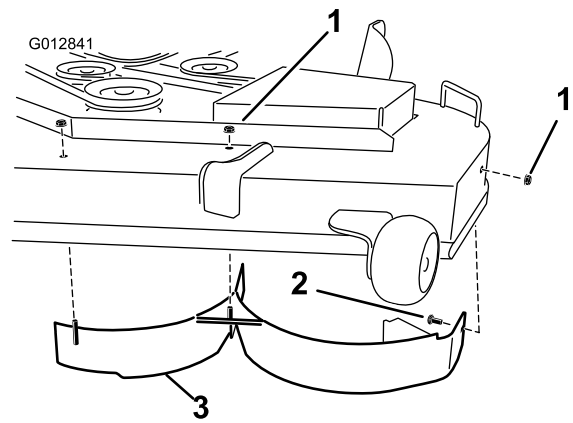

Figure 32
6. Remove the two lock nuts (5/16 inch) secured to the welded posts of the left baffle on the top of the mower deck at the center and left of center positions (Figure 32). Remove the carriage bolt and lock nut on the side wall of the mower deck securing the left baffle to the deck.
7. Remove the left baffle from the mower deck as shown in Figure 32.
8. Locate the two bolts and lock nuts in loose parts. Install these fasteners into the holes shown in Figure 32 on the mower deck to prevent flying debris. Install the bolt up, through the underside of the deck and use a lock nut to secure from the topside.